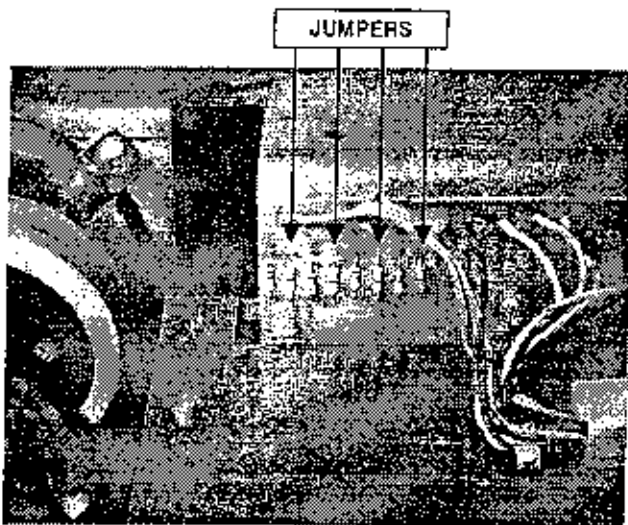

Fig. 3.12 Input Jumpers
3. Locate the four jumpers on the circuit board protruding from the back of the P.I.P. connector assembly (see Figure 3.12).